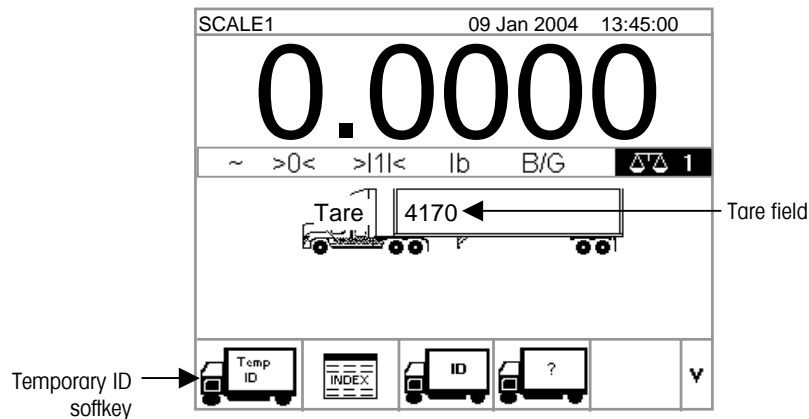

Figure 2-7: Default Weight Screen
1. From the default weight screen (Figure 2-7), use the numeric keypad to enter the tare value in the tare field **BEFORE** pressing the TEMPORARY ID softkey.